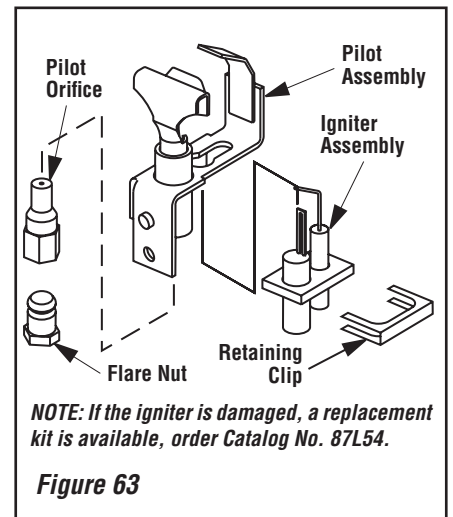

Figure 63
Step 4. Honeywell Electronic Valves - See **Figure 63** and the instructions provided with the kit. Remove the slotted cap screw, o-ring, pressure-regulating adjusting screw and spring. Retain all parts for possible later use. Install new components from the kit. Black cap and red spring for propane gas appliances. Silver cap and stainless steel spring for natural gas appliances. Before installing the cap, attach manometer to the manifold side pressure test fitting and adjust screw until pressure reads 3.5 inches water column (0.87 kPa) for natural gas, and 10.0 inches water column (2.49 kPa) for propane gas.
See **Figure 63** and replace the pilot orifice as follows: Remove the igniter assembly retainer clip, and carefully remove the igniter assembly.